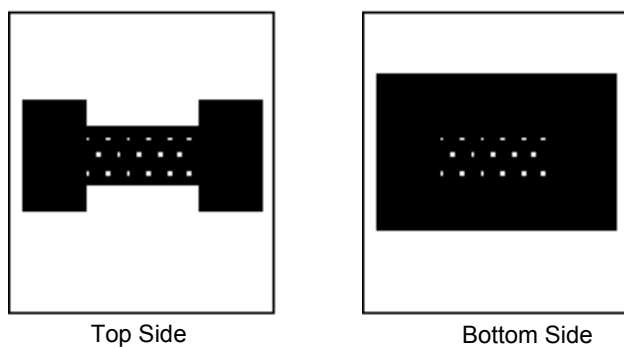
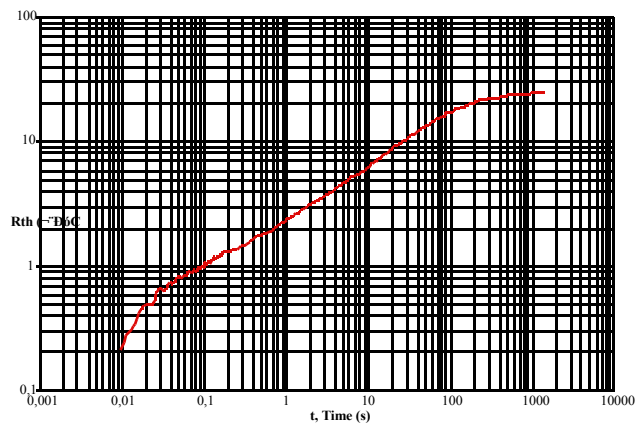

Figure 21. PCB Test Layout
Figure 22. 33886 Thermal Response
**Example** Characterization on a double-sided PCB: bottom side area of copper is 7.8 cm2; top surface is 2.7 cm2 (see Figure 21); grid array of 24 vias 0.3 mm in diameter.
Figure 22 shows the thermal response with the device soldered on to the test PCB described in Figure 21.